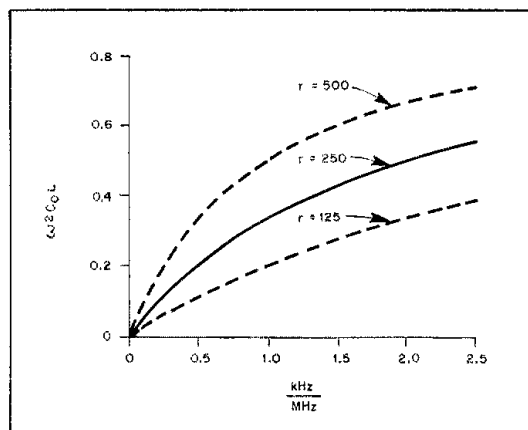

Fig. 2 — Graph used to aid in the design of VXOs.
□ Inductance-loaded VXO design is facilitated by the use of the graph in Fig. 2. The operating frequency varies from series resonance, ω_s , downward. C_0 is the equivalent parallel capacitance of the crystal; r is the ratio of C_0 to C_1 (equivalent series-branch capacitance of the crystal) and is the electrical equivalent of the mechanical elastance of the vibrating plate. L is the equivalent load inductance; it is made continuously variable by various configurations of adjustable capacitors.¹ HC-6/U fundamental crystals have a C_0 in the range of 5 to 9 pF and an r value in the vicinity of 250. Almost all fundamental high-frequency crystals have r values between the limiting values of 125 and 500, as shown by the dashed lines in Fig. 2. Stability varies roughly with the slope of the curve. For $r = 250$, the best compromise of range versus stability occurs at about 1.5 kHz/MHz. Stability at unregulated room temperature is about one part per million per hour. — *Frank Noble, W3MT, Bethesda, Maryland*